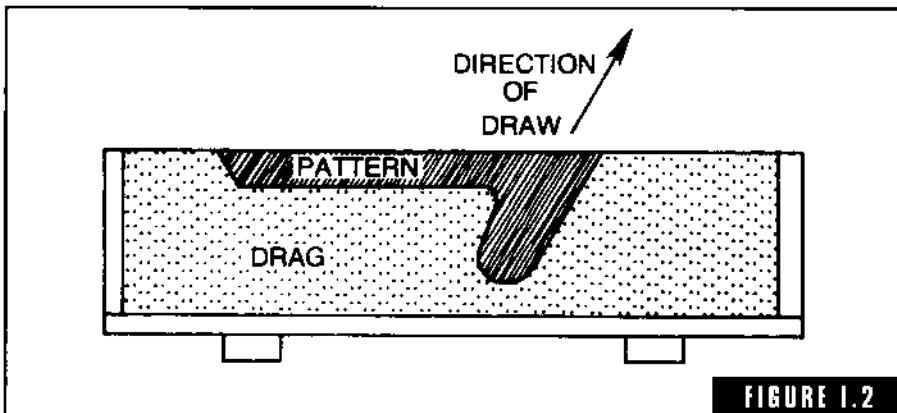

FIGURE I.2
**irregular draw** A pattern or portion of a pattern so constructed that it must be removed from the mold in other than a straight vertical lift (Fig. I-2).